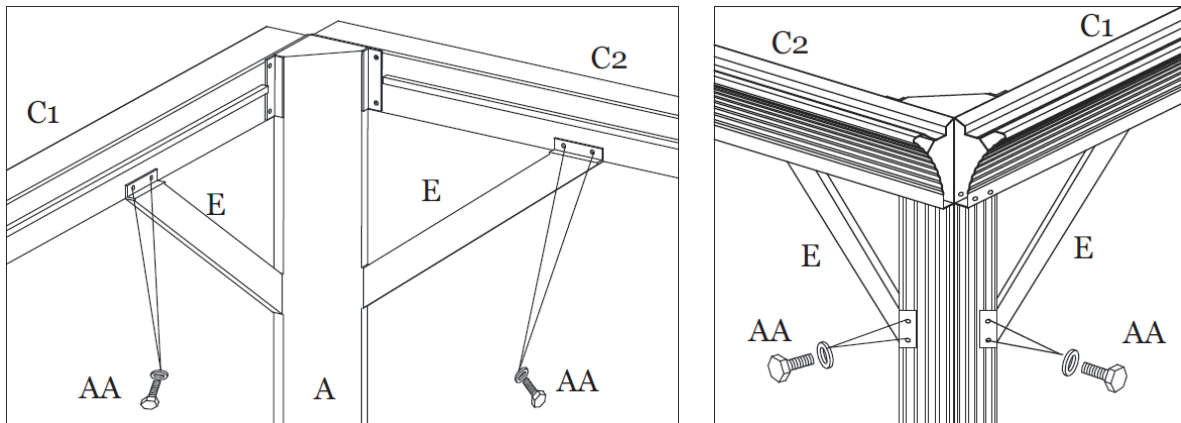

Figure 4-2
Step 4B: Attach Support Bars (E) to Lintels (C1 and C2) and Corner Posts (A) with Bolts (AA). See Figure 4-2.